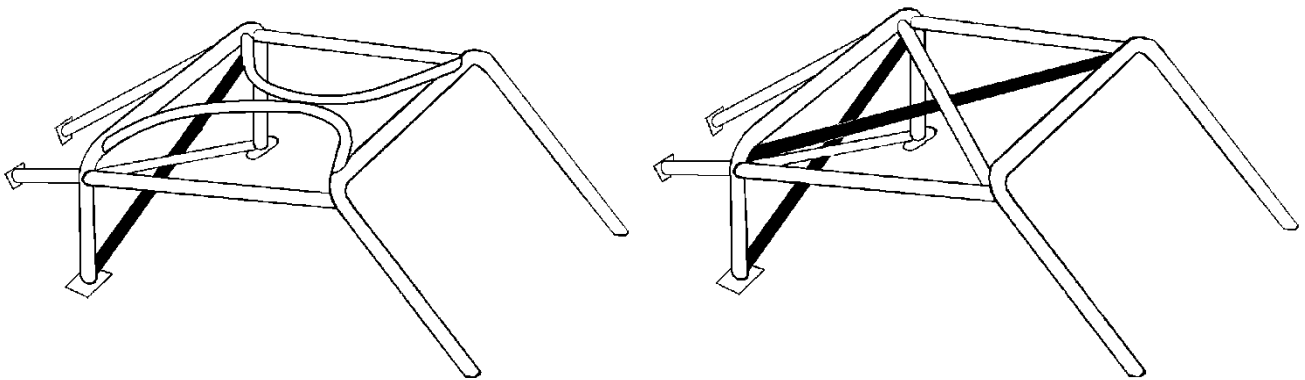

Figure 1
- 1.2.5. Optional reinforcing members may be fitted (shaded items in fig. 1) but none may extend forward of the front roll hoop although an additional diagonal brace within the top of the roll cage is recommended;
All Lotus 7 type cars must be equipped with externally mounted side impact protection bars consisting of a structure mounted on the outside and, at minimum, to the driver's side of the vehicle and generally configured in accordance with Figure 1. Although option 2 is the preferred and recommended configuration, the utilisation of one, or a combination of, options 1, 2 or 3 is permitted. This requirement is in addition to any existing internally fitted side impact protection.